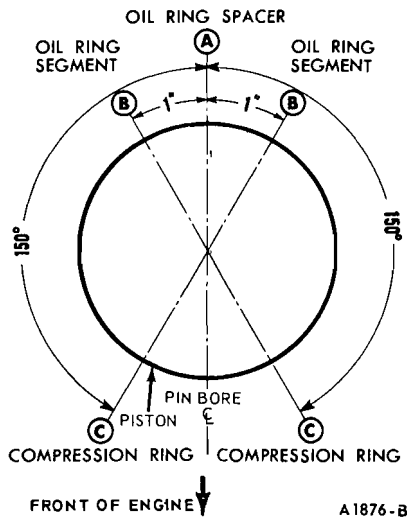

FIG. 58—Piston Ring Gap Spacing
3. Make sure the ring gaps are properly spaced around the circumference of the piston (Fig. 58).
2. Insert new piston pin retainers into the piston. Check the end gap of all piston rings (Part 8-1). It must be within specifications (Part 8-4). Follow the instructions contained on the piston ring package and install the piston rings. Be sure the piston ring gaps are properly spaced (Fig. 58).